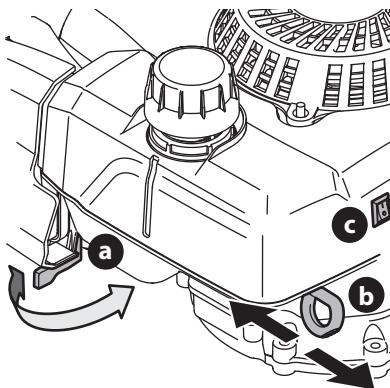

Figure 7
- If equipped, ensure the fuel shut-off valve (a) is in the "ON" position (Figure 7).